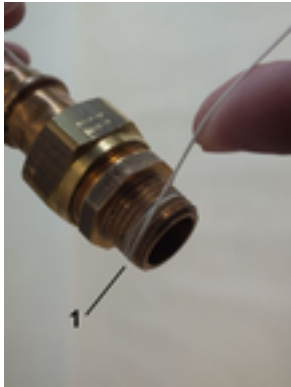

Fig. 9: Apply sealing thread
2. ➤ Apply sealing thread (*Fig. 9/1*) to the napped area in the threaded direction. Observe the quantity recommended by the sealant manufacturer.